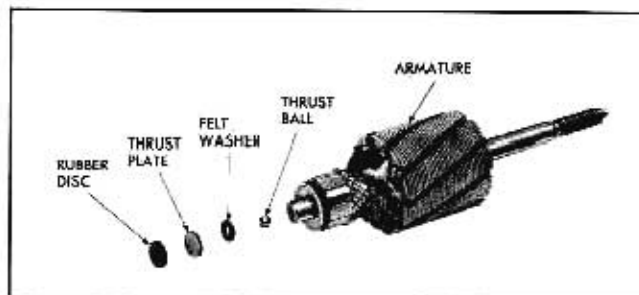

Fig. 11-79 Exploded View of Armature Thrust Parts
6. Remove felt washer, steel thrust plate and rubber thrust disc from case assembly bearing as required (Fig. 11-79).